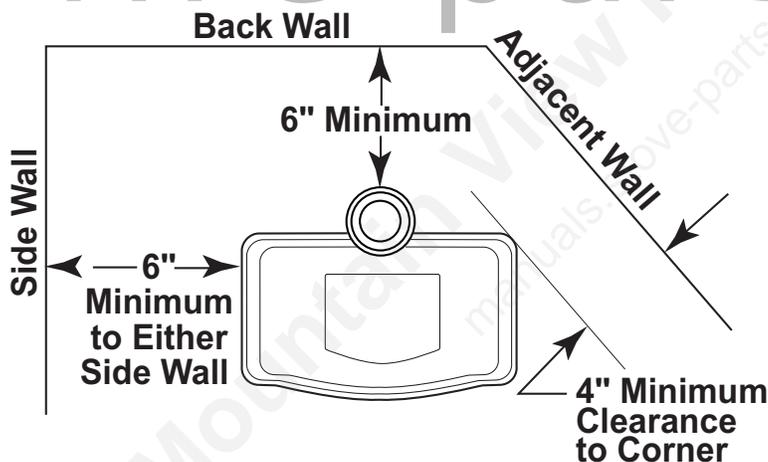

Figure 4 - Clearances to Side, Back and Adjacent Walls (C28/C40)
- Minimum clearances to combustibles, side-wall, ceiling, woodwork, and windows **must be maintained**. See *Figures 4 and 5, page 8*.
The dimensions shown in *Figures 4 and 5* are minimum clearances to maintain in installing this heater. Left and right clearances are determined when facing the front of the heater.
- Stove must be at least 6" from the back wall and either side wall. *See Figure 4.*
- Stove must be at least 4" from the corner. *See Figure 4.*